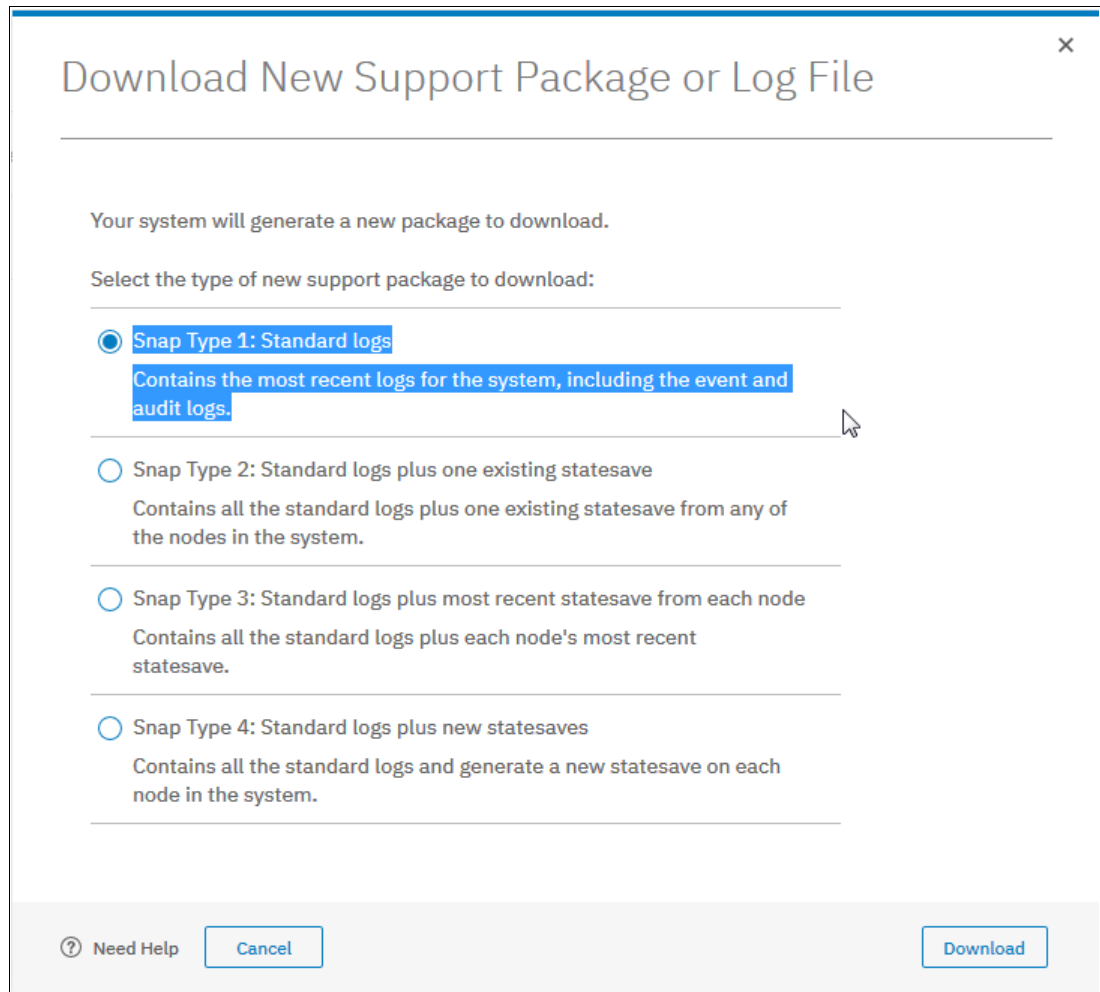

Figure 12-125 Download support package or log file
4. In the Download New Support Package or Log File window, select one a type of support package to download, as shown in Figure 12-125.